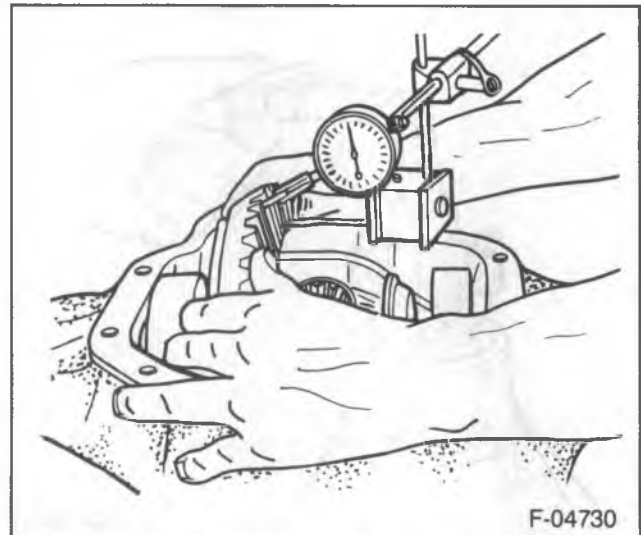

Figure 41—Measuring Backlash
1. Mount a dial indicator with a magnetic base to the axle housing as shown in figure 41.